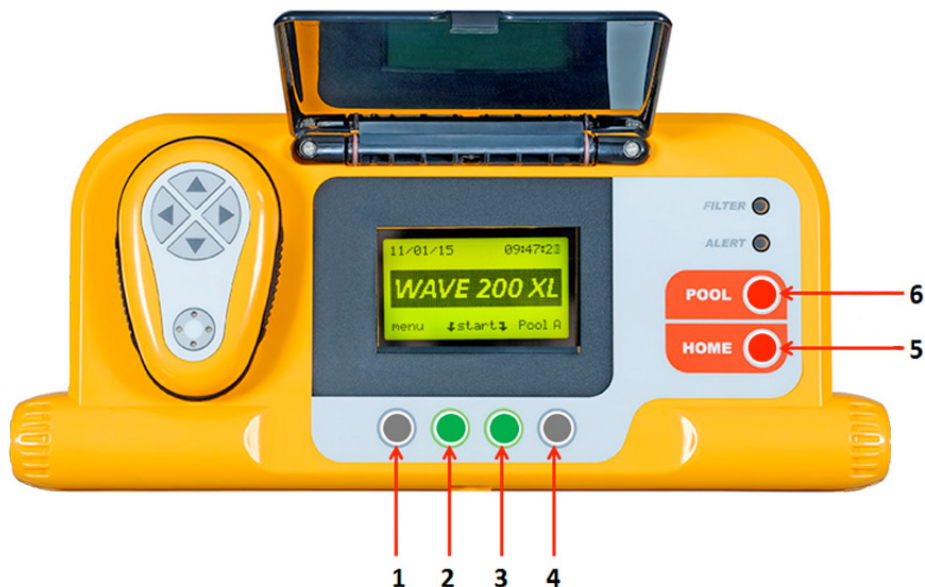

Figure 4: MMI Console
- In this user manual, the term **Press Start** means to simultaneously press both green buttons on the MMI console (marked **2** and **3** in the Figure 4).
- The MMI is equipped with a screensaver that is displayed after 5 minutes of idle time. Press the **POOL** and **HOME** buttons (marked **5** and **6** in Figure 4) to exit the screensaver mode.
- Some options in the MMI (pool profile setup) menus are blocked with a code to prevent changing the setting accidentally. The code sequence for unblocking these options is: **3**, **2**, and **1** (Figure 4).
- **Alert:** This Alert LED lights up to indicate an error that stops the robot from functioning. In such cases, inspect the robot to locate the problem and if it can be fixed, start the robot again. If the error repeats itself, then details of the specific error are displayed on the MMI screen (Figure 4). If this occurs, contact your Maytronics dealer immediately.
2. Wait for the *Wave 200 XL* screens to appear. Press **Start** (press both green buttons, marked **2** and **3**, in Figure 4, simultaneously). The cleaning session begins.
3. To stop the cleaning session at any time, press the right grey button, marked **4**, in Figure 4.